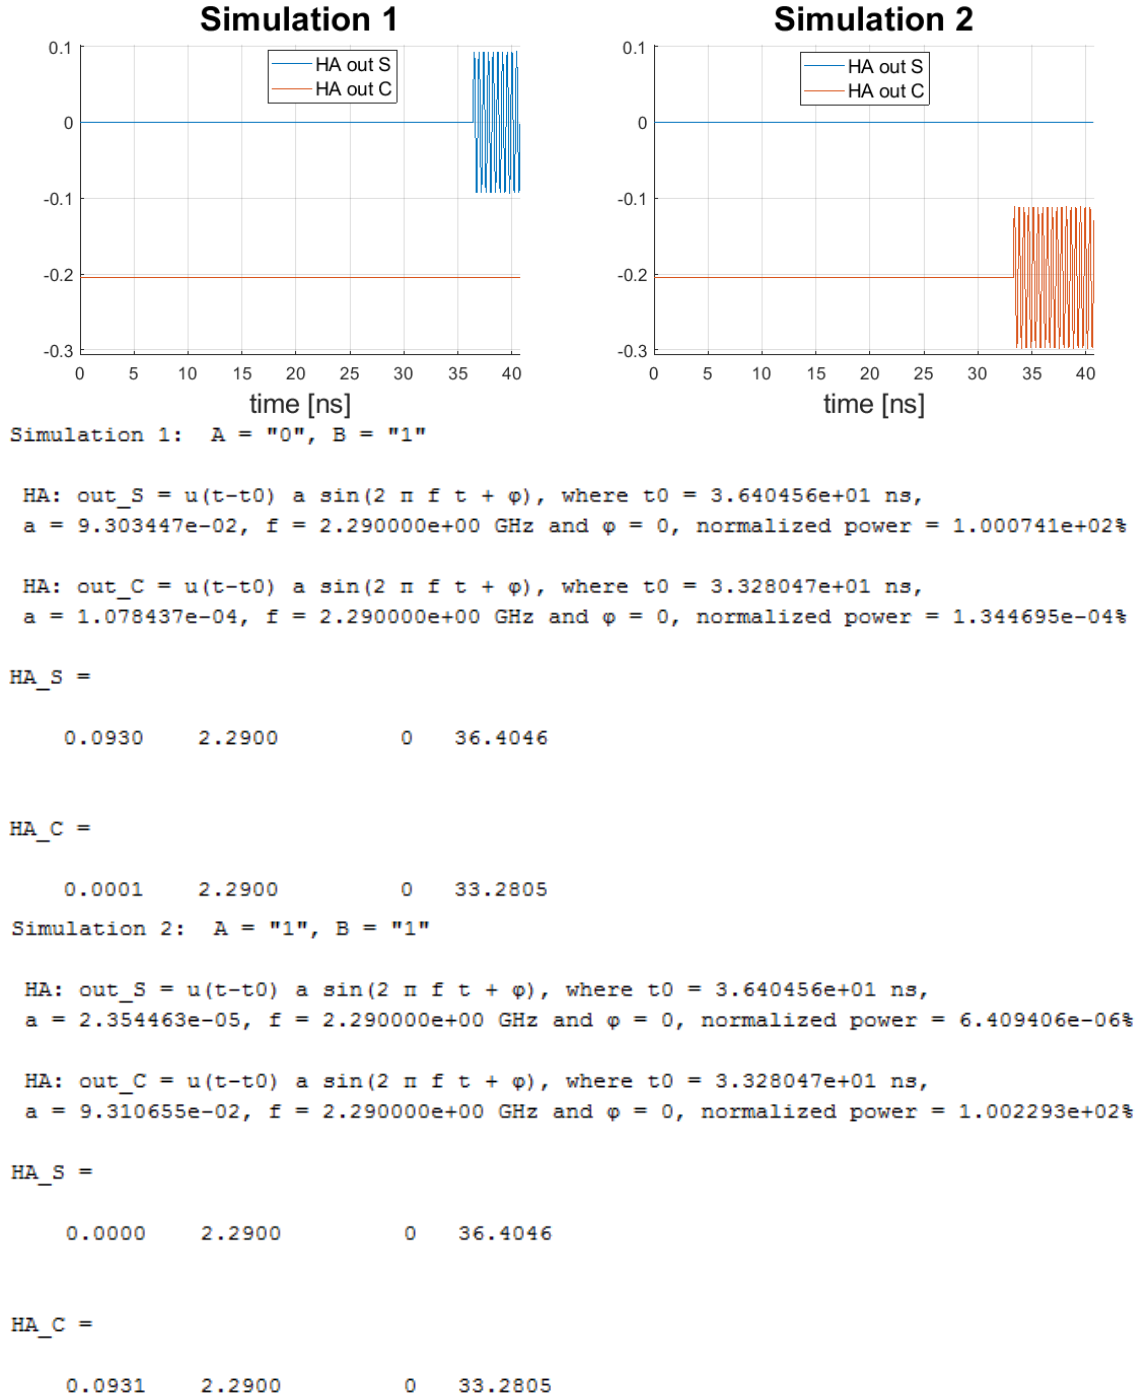

Figure 1.7: Simulation result.
- Obtain the result as shown in Figure 1.7.